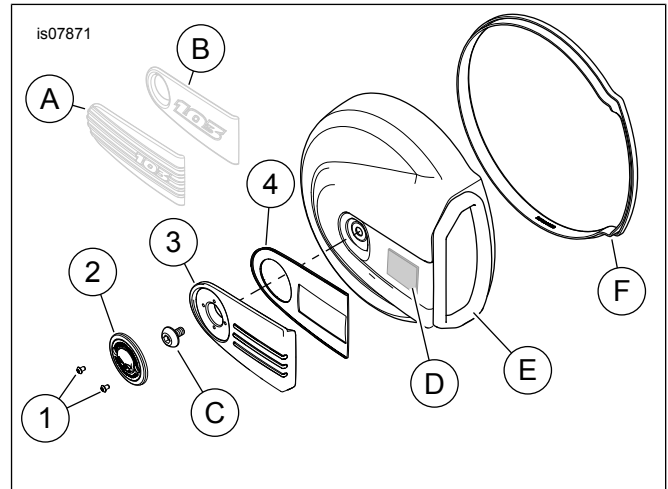

Figure 1. Service Parts: Air Cleaner Trim Kit
See Figure 1 and Table 1.
1. See Figure 1. Remove original equipment (OE) insert (A or B) from the air cleaner cover.
2. Remove screw (C). Air cleaner cover (E) and seal (F) do not require removal.
- a. See Figure 1. Thoroughly clean area (D) with a 50:50 mix of rubbing alcohol and water. Allow to dry completely.
- c. Visually align trim plate (3) with cover and press firmly in fastener area (D) to secure. Hold for 30 seconds.
3. Apply LOCTITE 243 MEDIUM STRENGTH THREADLOCKER AND SEALANT (blue) to threads of screw (C).